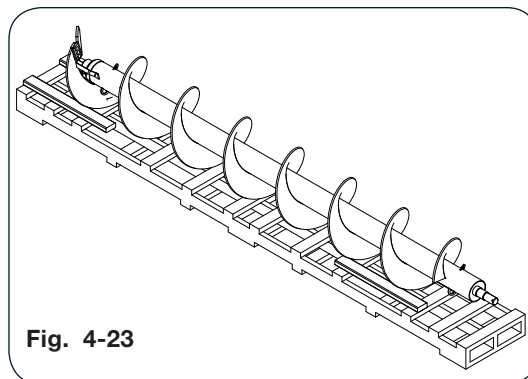

Fig. 4-23
1. The replacement auger is factory balanced. Remove entire auger from shipping crate and secure from rolling. The upper auger assembly is pictured in Fig. 4-23 for reference.